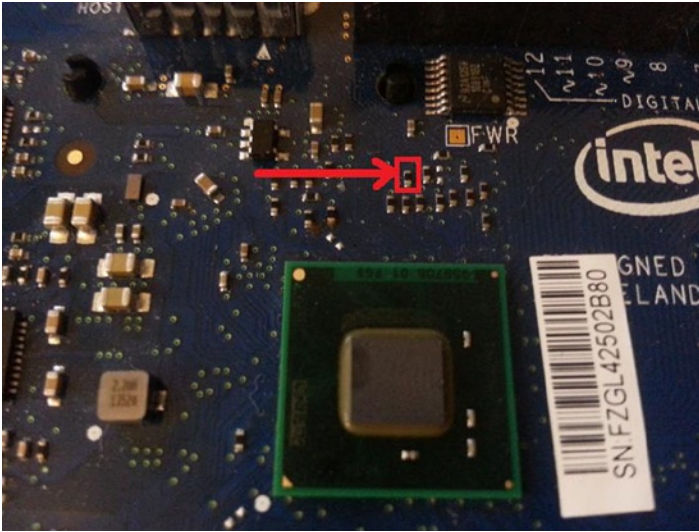

Figure 2-20. Resistor to ground to enter the recovery mode
5. Ground the R2B16 resistor, as shown in Figure 2-20.